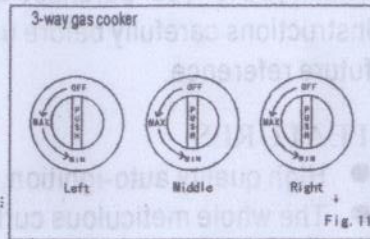

Fig. 11
3. Place the gas control knob onto the gas cock axis and push it inwards firmly. (Fig. 10)(Fig. 11)